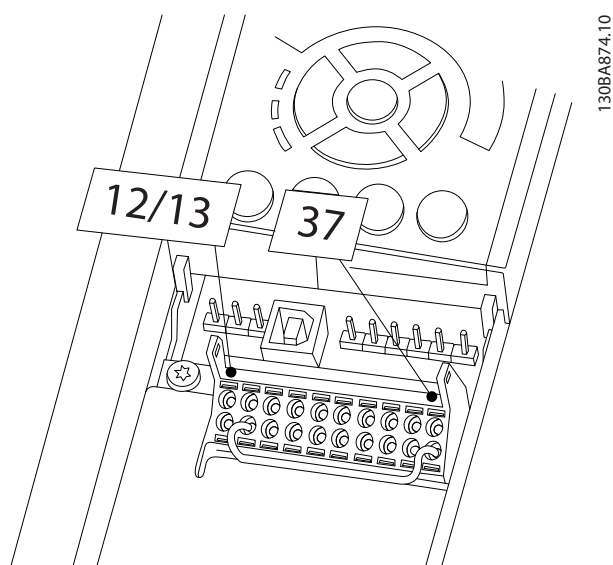

Figure 2.23 Jumper between Terminal 12/13 (24 V) and 37
1. Remove the jumper wire between control terminals 37 and 12 or 13. Cutting or breaking the jumper is not sufficient to avoid short-circuiting. (See jumper on *Figure 2.23*.)
If the status line at the bottom of the LCP reads **AUTO REMOTE COASTING** or **Alarm 60 External Interlock** is displayed, this indicates that the unit is ready to operate but is missing an input signal on terminal 27. See *Figure 2.23* for details.